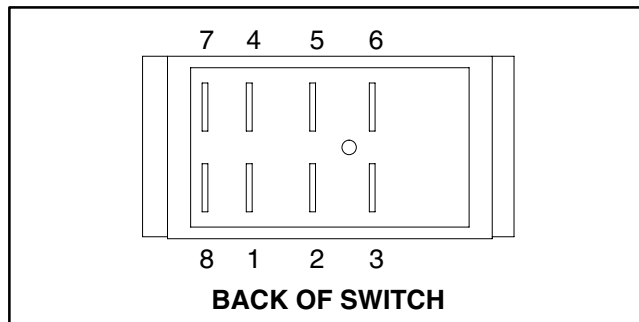

Figure 27
2. The switch terminals are marked as shown in Figure 27. In the ON position, continuity should exist between terminals 2 and 3 and also between terminals 5 and 6. In the OFF position, continuity should exist between terminals 1 and 2 and also between terminals 4 and 5.